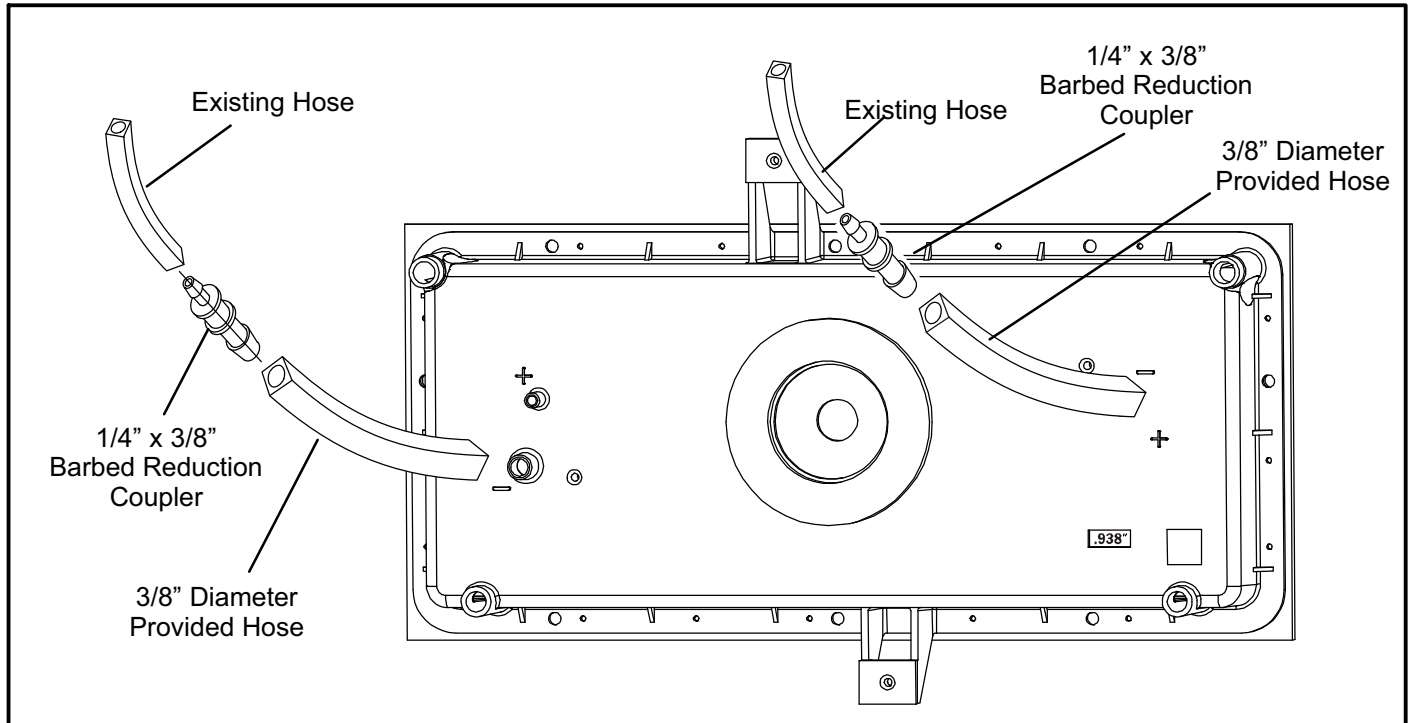

FIGURE 1
- 7 - Disconnect the (4) condensate tubes positioned at each corner of the collector box.
- 9 - Remove and discard the (8) screws holding the collector box and remove box from the unit.
- 11 - Use the provided (8) screws and install the replacement collector box. Make note of correct orientation.
- 17 - Insert the provided barbed reduction couplers into each of the (2) provided 3/8" ID hoses then connect to the 3/8" negative (-) ports on the box. Make sure the hoses are fully engaged to the ports. See figure 1.